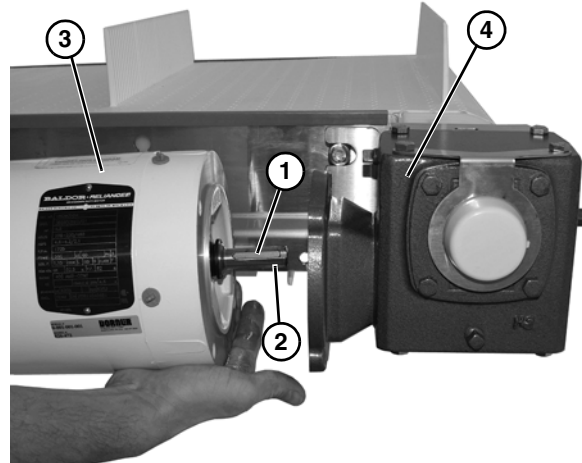

Figure 8
7. Install shaft key (Figure 8, item 1) onto motor shaft (Figure 8, item 2), and install motor (Figure 8, item 3) onto gear reducer (Figure 8, item 4).